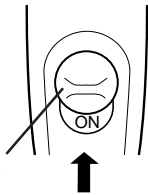

Fig.18
- 1 To turn on the vacuum cleaner, move the switch on the appliance to the "ON" position. (Fig. 18)